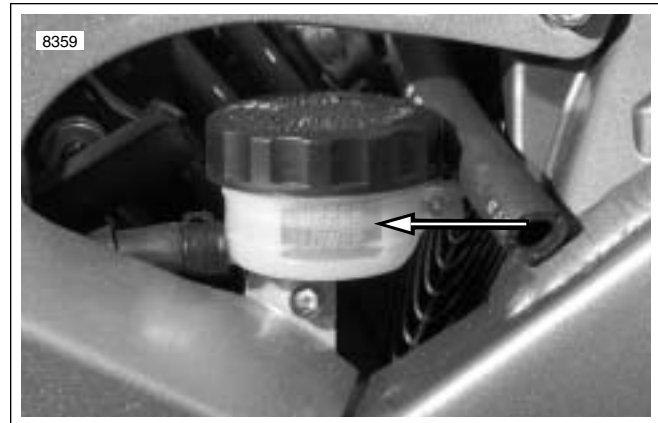

Figure 2-64. Rear Reservoir
5. See Figure 2-64. Verify proper fluid level in reservoir.